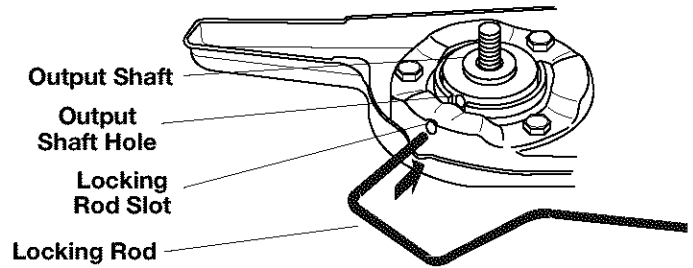
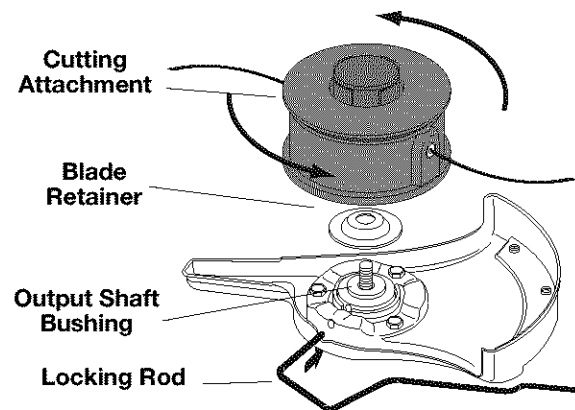

Fig. 5
Fig. 11
1. Line up the hole in the output shaft with the locking rod slot. Insert the locking rod through the slot into the output shaft hole (Fig. 5).
1. Align the shaft bushing hole with the locking rod slot and insert the locking rod into the bushing hole (Fig. 5).
5. Align the output shaft hole with the locking rod slot and insert the locking rod into the output shaft hole (Fig. 5). Place the blade retainer on the output shaft with the flat surface against the output shaft bushing as shown in Fig. 11. Screw the cutting attachment counterclockwise onto the output shaft. Tighten securely.